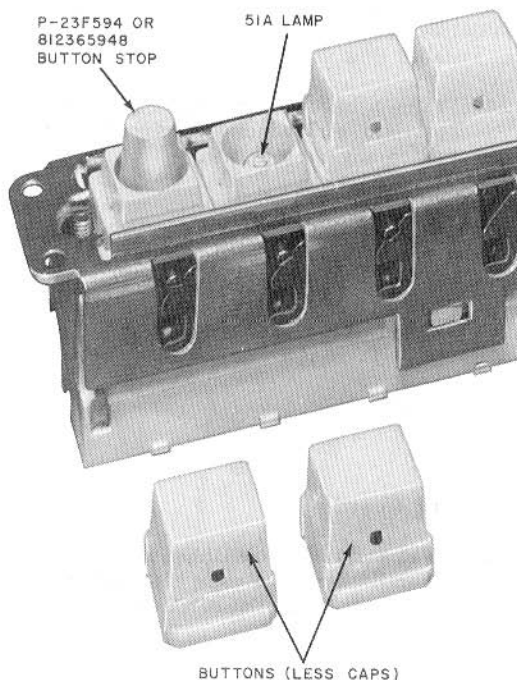

Fig. 12—Button Stop Installed in 635-Type Key
- (3) Place button stop over lamp (Fig. 12).
- (4) Reinstall button, cap, and collar.